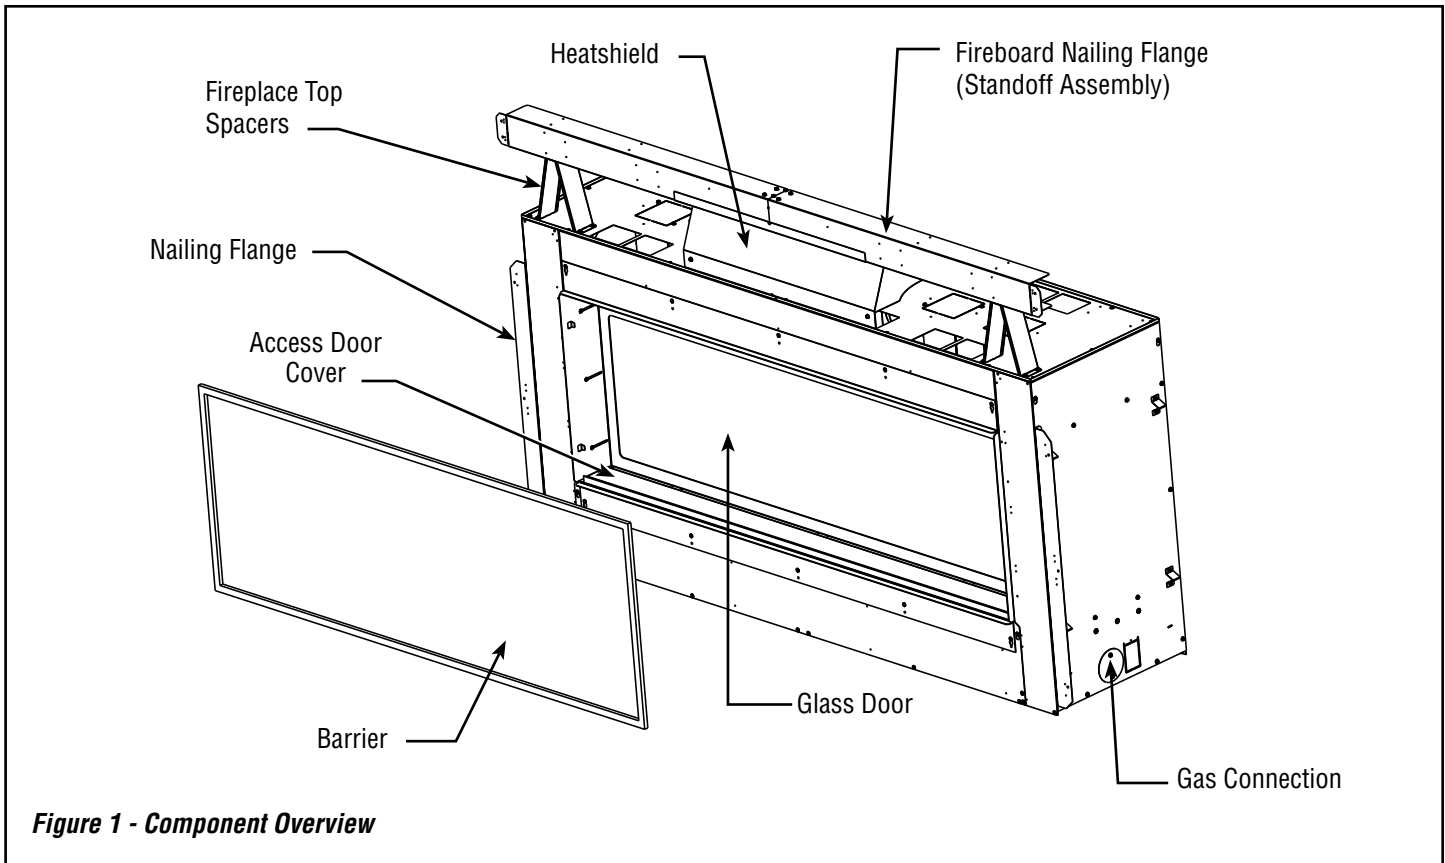

Figure 1 - Component Overview
- 60" Models - Three (3), 5 lb. bags
- 72" Models - Four (4), 5 lb. bags
- 84" Models - Five (5), 5 lb. bags
- One (1), Ecoflow Wireless Wall Switch
- Four (4), AA Batteries
- One (1), Fireboard Top
- One (1), Fireboard Bottom
- Two (2), Fireboard Sides
- One (1) Standoff Assembly (*see Figure 1*)
- One (1) Heat Shield (*see Figure 1*)
- Twelve (12) #10 Hex Head Screws